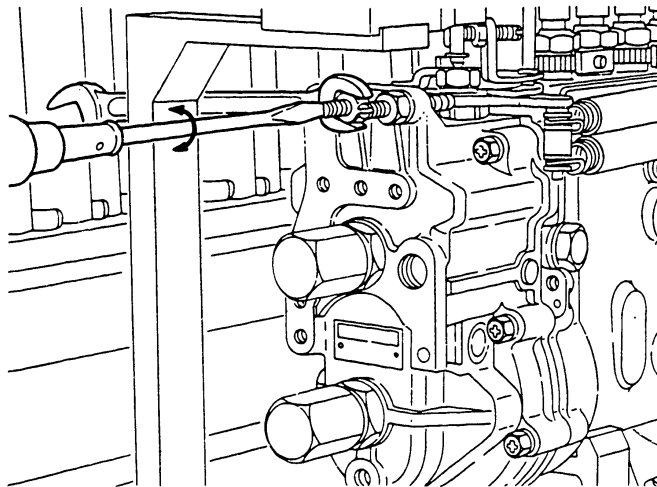

Fig. 147 Adjustment of the idling setting bolt
- 1) Decrease the pump speed to  $Nb'$  rpm and adjust the idling setting bolt (174) so that the control rack will be at position  $Rc$  mm. Then lock the nut (178). (Figs. 147 and 148)